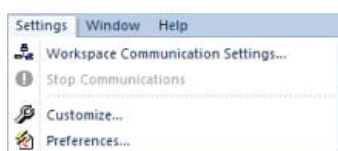

FIG. 3 NetLinx Studio menu bar - Settings > Workspace Communication Settings
1. Launch NetLinx Studio and select **Settings > Workspace Communication Settings** (FIG. 3):